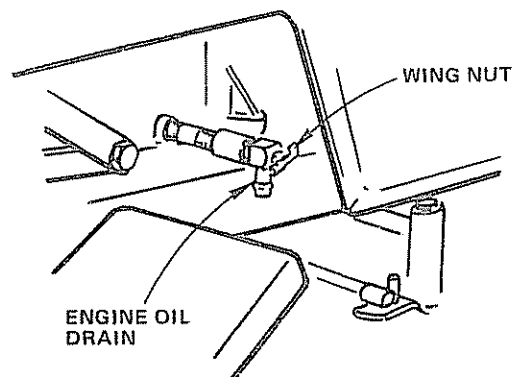

FIGURE 35
- Drain Oil with Engine warm. Loosen Oil Drain Wing Nut (Fig. 35) and remove Dipstick. Catch Oil in a suitable container. Tighten Oil Drain Wing Nut.